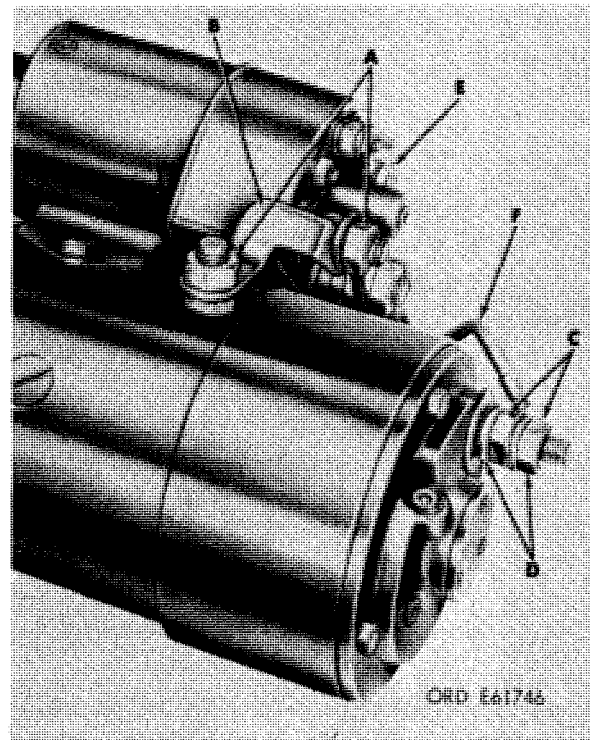

Figure 3-1. Removing or installing jumper and lead assembly.
*a.* Remove in following sequence: two hex nuts (A, fig. 3-1) and jumper (B); two hex nuts (C) and lockwashers (D); hex nut (E); and lead assembly (F).